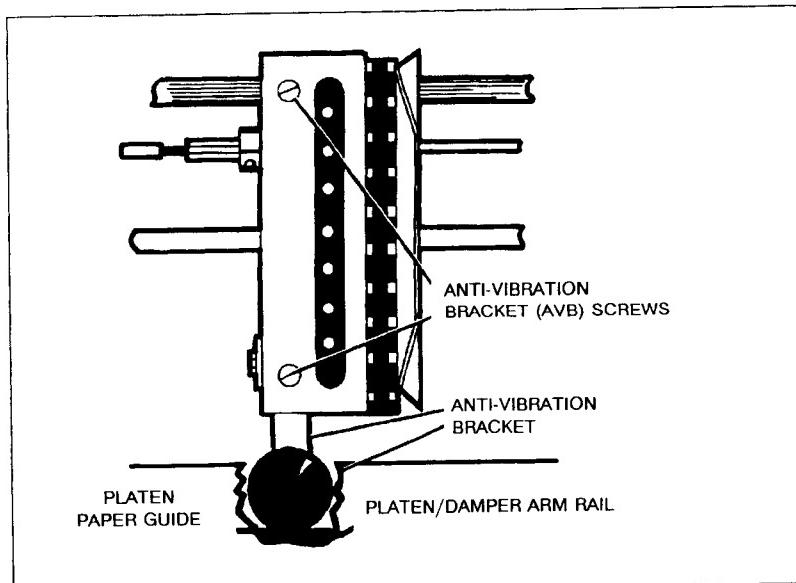

Figure 5-5. Releasing the Anti-Vibration Brackets (AVBs)
- e. Position the AVBs away from the platen. To do this, loosen the two screws in the tractor face plate (these are the AVB screws which secure the AVB), push tractor AVBs away from the platen and into the tractor, and tighten the AVB (faceplate) screws (see Figure 5-5).
- c. Open the tractor doors and slightly loosen the two pozis #1 or slotted faceplate screws, located on the face of each tractor, enough to allow the spring on the bracket to push the roller into the platen rail. Verify that the rollers are fully seated on the rail and retighten the two tractor faceplate screws. (see Figure 5-5).